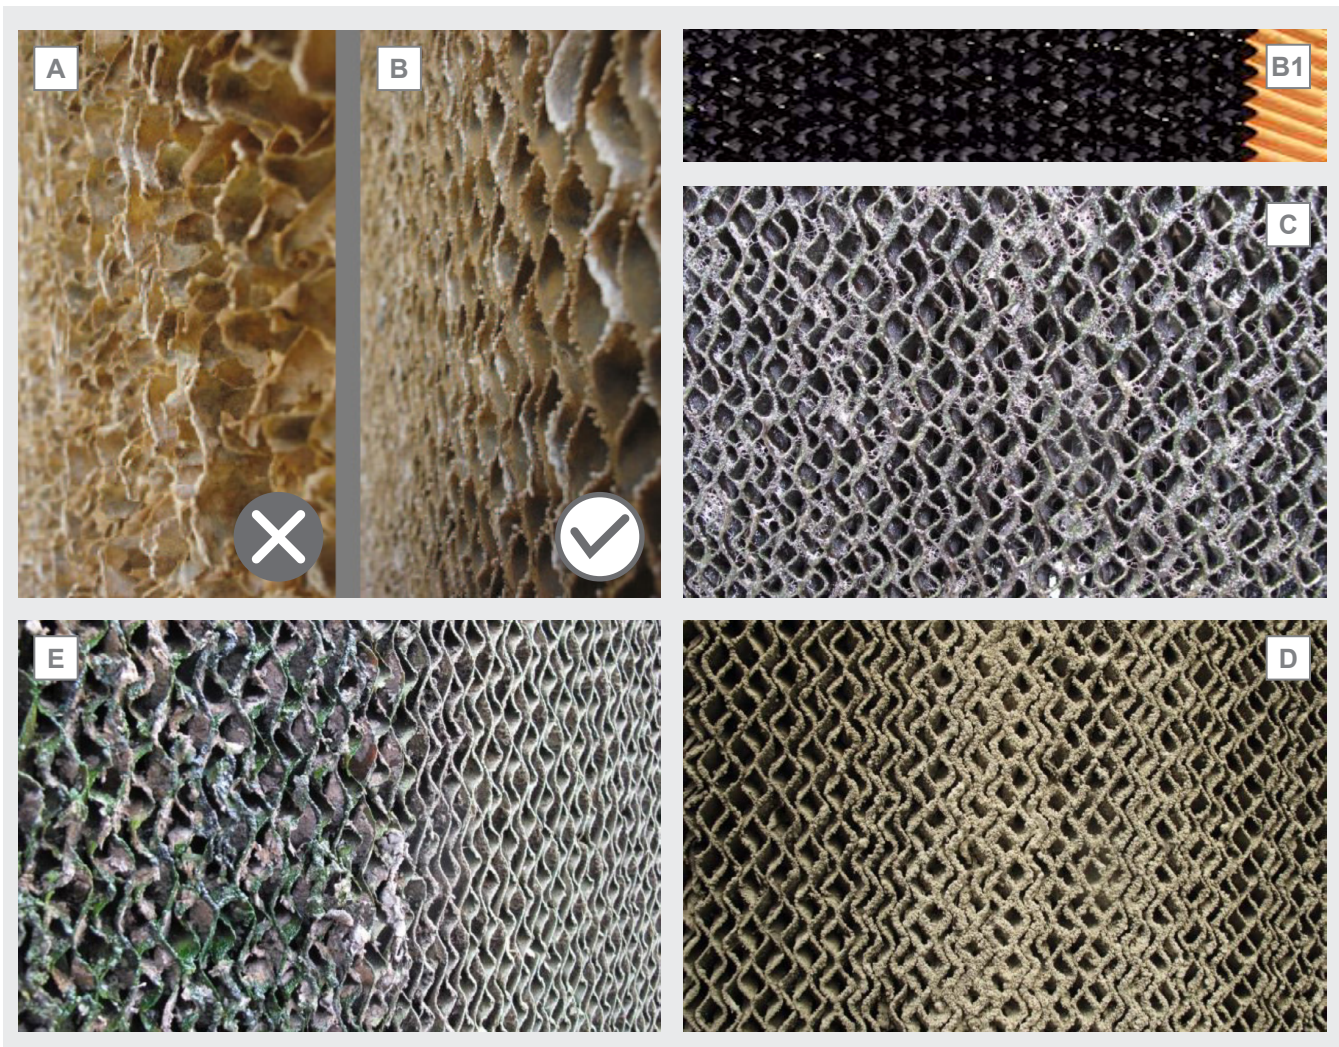

Figure 18
- 12.11.4 If worn, encrusted with lime scale or dirt of various kinds, the cardboard panels should be replaced so as not to affect the performance of the model. Contact Modine if necessary. Dispose of worn cardboards as per current regulations. See Figure 18 A as an example of a worn panel in need of replacement, Figure 18 B as an example of a panel in good condition. See Figure 18 C as an example of a panel in need of cleaning (routine cleaning). If required, the panels can be provided with a surface treatment that discourages the adhesion of biofilms and precipitated salts. The surface treatment can positively affect the maintenance time of the panels, their durability, and facilitate cleaning operations. See Figure 18 B1.
12.11.16 In the case of a panel encrusted with scale or silicate deposits (see Figure 18 D) or with algae or bacterial colony formations (see Figure 18 E), the following steps can be taken: rinse the panel with low-pressure water and scrub the surface with a soft-bristled brush. Rinse the panel with low-pressure water.